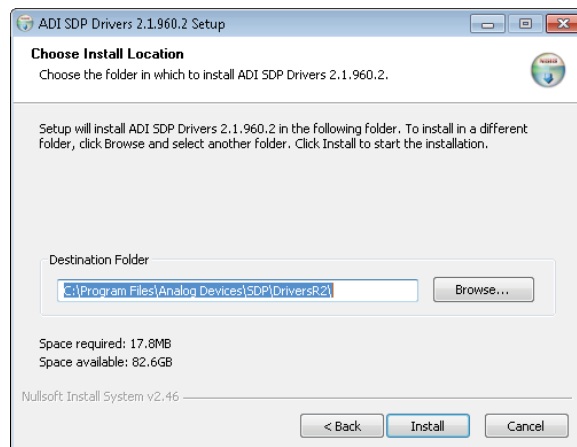

Figure 3. Choose Install Location Window
3. When the **Choose Install Location** window appears (see Figure 3), click **Install**. To select a different destination folder, click **Browse**, select a destination, then click **Install**.